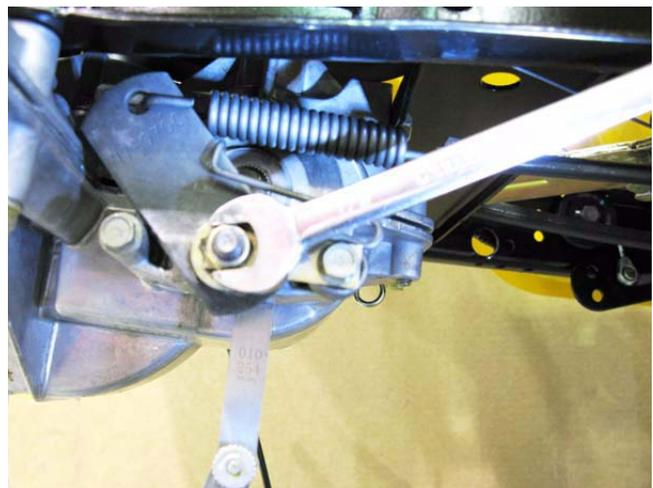

Figure 6.11
- 2c. Adjust the gap, if necessary, so that the feeler gauge slips between the pad and the rotor with light pressure. See Figure 6.11.